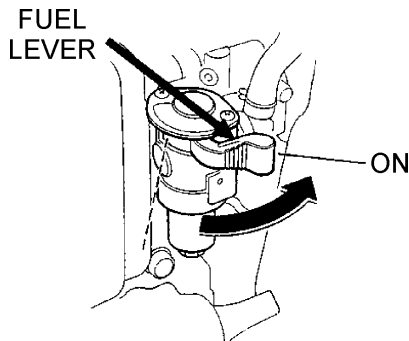

Figure 20. Engine Fuel Valve Lever (ON Position)
1. Place the engine ***fuel valve lever*** (Figure 20) to the "**ON**" position.